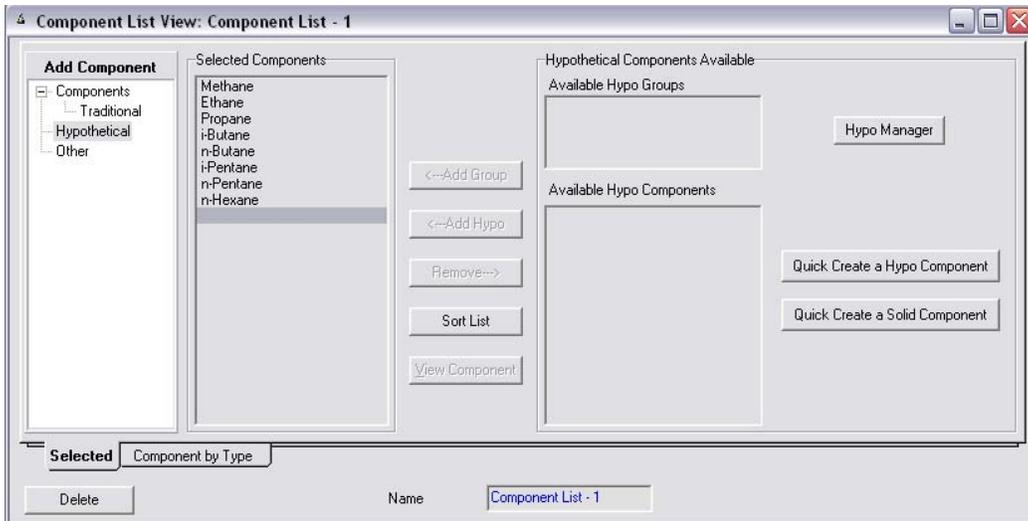

Figure 4-1
- On the **Connections** tab, add a Compressor and enter the following information as shown in Figure 4-1: